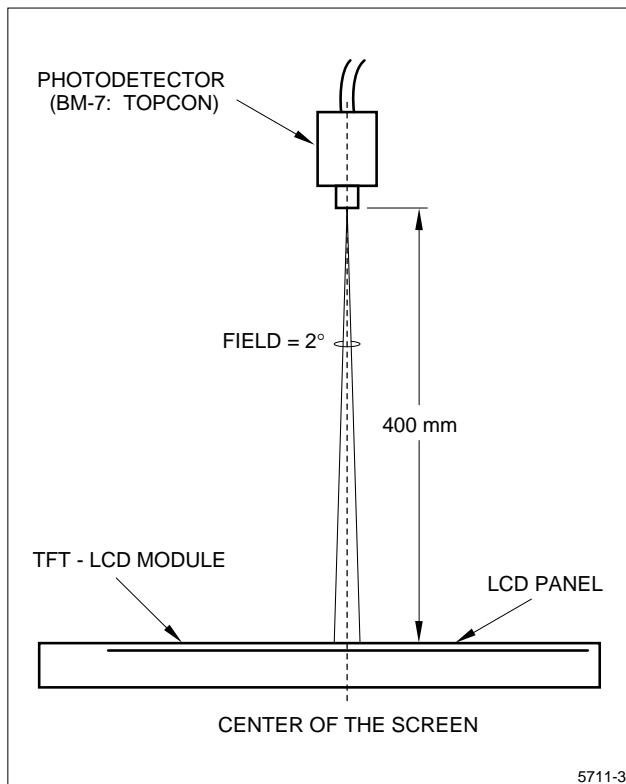

Figure 4. Optical Characteristics Measurement Method
1. The measurement shall be executed 15-20 minutes after the module has been lit at the proper rating. The optical characteristics shall be measured in a dark room or equivalent state with the method shown in Figure 4.